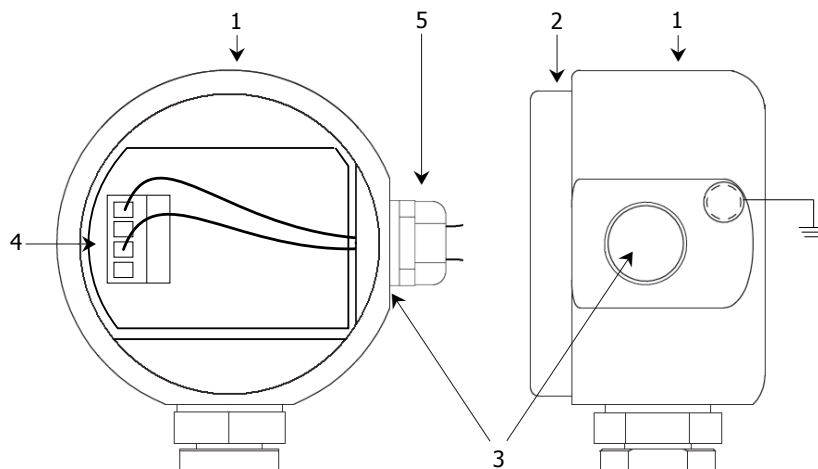

Figure 15 *Dew-point Transmitter Housing*
- b. Cable connection to the dew-point transmitter is made via the terminal block (4) (see *Figure 15*). Remove the terminal housing lid (2) to access.